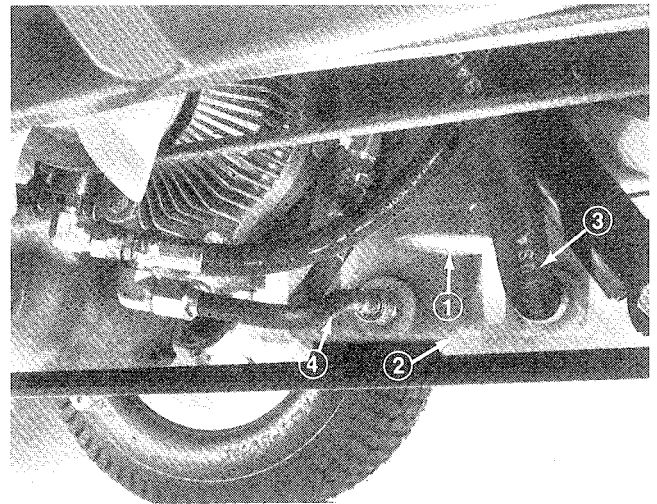

Figure 25
1. Remove hydraulic oil filter from mounting head (Fig. 25). Use bottom type filter wrench. Dispose of the filter properly.
2. Clean the area around the hydraulic oil filter and remove the filter from the bottom of the filter housing (Fig. 25). Use bottom type filter wrench.
3. Disconnect tube assembly and hose assembly from reservoir and allow the oil to flow into a drain pan (Fig. 25).